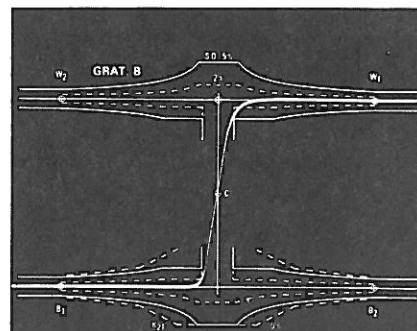

Figure 6. S.D. using 2T pulse rising transient, S.D. ≈ 2%.
IEEE Trial Standard 511-1974 describes the technique for measuring short time waveform distortion (SD) in detail. Graticule B includes the mask prescribed in the Trial Standard. The 1480's POSITION controls are adjusted so that the transition passes through points B (blanking) and C, and the vertical gain is set so that white level of the bar passes through point W. Some control interaction will take place. Using the 200 nsec/div time base, an undistorted 1T transition will lie perfectly centered in the mask. See Figure 6.